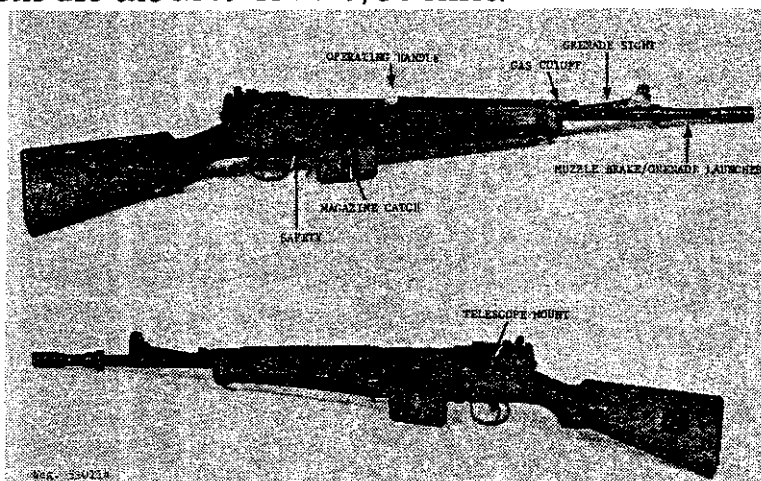

Figure 115. M.A.S. 49/56 rifle.
b. The Model 49 was extensively modified in 1956. The resulting weapon, the Model 49/56 (fig 115), has a shortened forearm, a new combination muzzle brake/grenade launcher, and minor internal changes. It is now the standard rifle of the French Army, and most Model 49's have been converted to the M49/56 version. Only the French Army and a few of the former French possessions use the M49 or M49/56 rifles.
b. The telescopic and infrared sights slide onto the sight base on the left rear of the receiver (fig 115) from rear to front. Swing the lever on the sight adapter forward to lock the sight to the rifle. Adjust the telescopic sight as described in paragraph 179c. The infrared sight is operated according to the instructions issued with the sight.